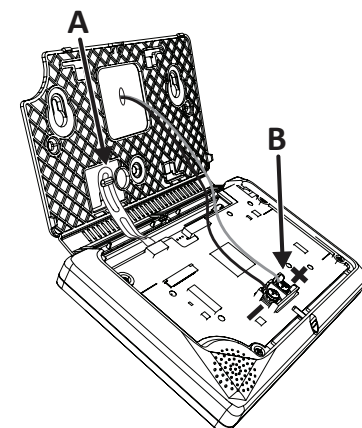

Figure 6a — AC Adapter
- 1 Reconnect the plastic hanging strap to the inside of the back cover (see A in Fig. 6a).
- 2 Route the power supply wire to the power terminals on the Keypad 1 (see B in Fig. 6a).
- 3 Use #6 Insulated Spade Terminals (not provided) to connect the power wires to the keypad. The connections are polarity sensitive. Always observe the (+) and (-) markings on the unit (see B in Fig. 6a).